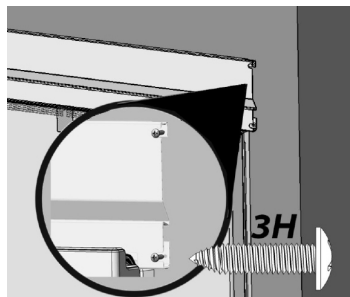

Fig. 23
- b. Drill $\frac{1}{8}$ " pilot holes and fasten two 3H screws on the right side of the Top Trim (one screw per side for Collared top trim) with a Phillips screwdriver to the cabinets (Fig. 23).